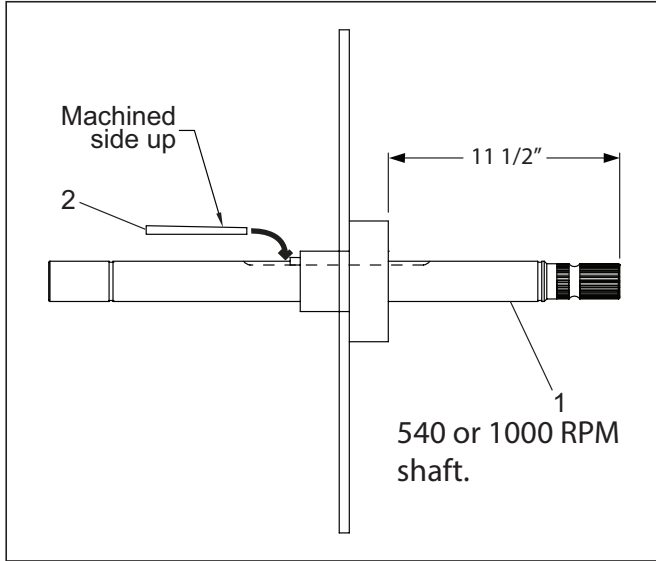

Figure 57
1. Adjust the shaft (item 1) following the dimensions shown in Figure 57. Make sure the taper key (item 2) is positioned on the shaft as shown in Figure 57. Insert the key as far as possible.